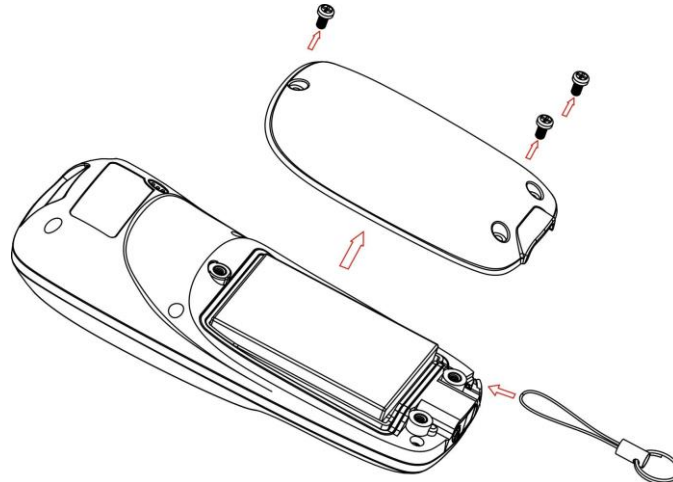

Figure 2-2. Diagram of attaching the neck/wrist strap
1. Refer to Figure 2-2, remove the 3 screws from the battery cover (one at a time).